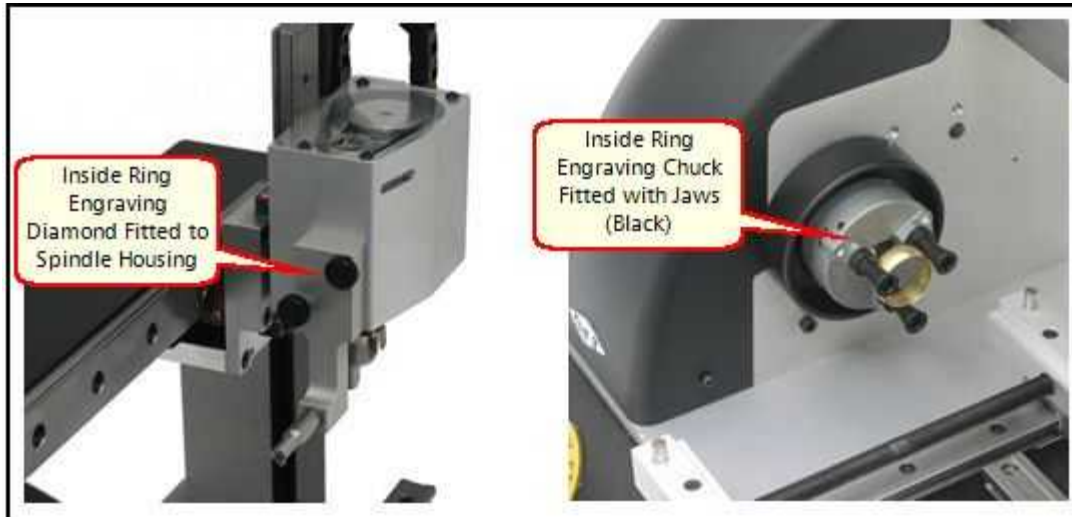

Figure 3
- 7 Attach the Inside Ring Diamond Head to the Spindle Housing using the two thumb screws provided, see Figure 3.
3. Fit the Ring Engraving Chuck, by screwing it in place of the Pen Holder, make sure you have the Inside Ring Engraving Jaws fitted, (these are Black), see Figure 3. When fitting the Chuck, please ensure that you use the Spanner provided to hold the driven part of the Head Stock and only tighten the Chuck FINGER TIGHT. Over tightening may damage the Drive Stock Gears and make the Chuck difficult to remove.